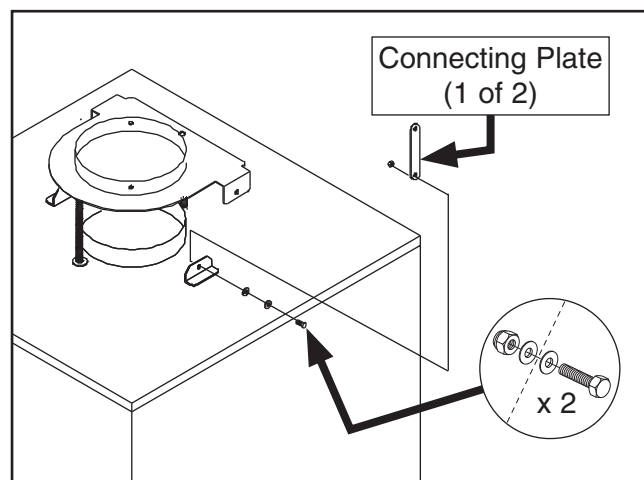

Figure 37. Installing drum lid connecting plates on drum lid.
50. Install drum lid connecting plates with (2) $\frac{3}{8}$ "-16 x 1" hex bolts, (4) $\frac{3}{8}$ " flat washers, and (2) $\frac{3}{8}$ "-16 lock nuts (see **Figure 37**).